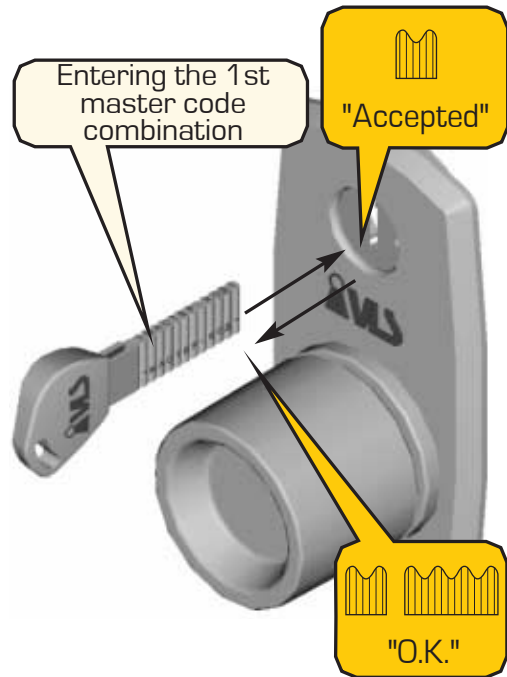

Figure 23 – Entering the 2nd master code combination
6. Set the second master code combination according to p. 4. Insert the key into the keyhole up to the stop, and then remove it. When you insert the key, the "Accepted" signal shall be heard, and when you remove it the "Accepted" signal shall be heard (fig. 23).